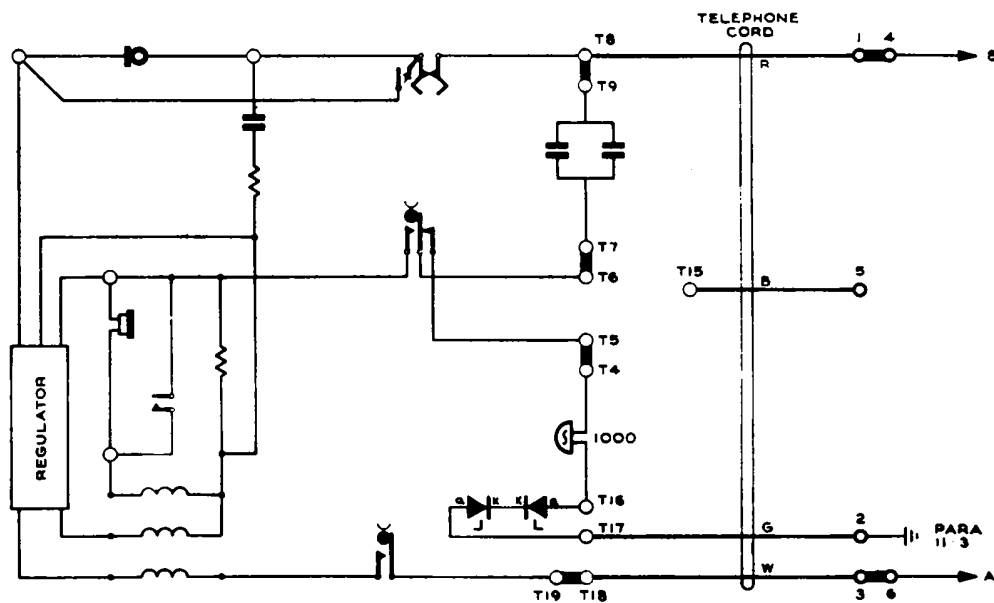

FIG. 15 M PARTY FROM CROSSBAR EXCHANGE (SEE PARA 11 PAGE 5 2)
11.2 Connections for the A, D and M subscribers are shown in fig. 15. For R and S subscribers, reverse the A and B line wires at block terminals 4 and 6. A revertive call will prove a correct connection. Revertive numbers are shown in table 1. (See para. 11.4).